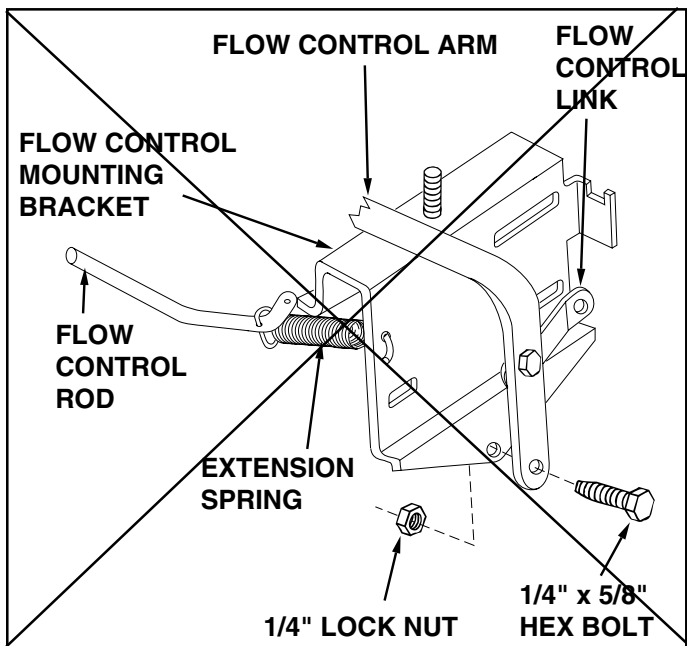

FIGURE 10
15. Assemble the flow control arm to the flow control mounting bracket using one 1/4" x 5/8" hex bolt and one 1/4" hex lock nut. See figure 10. **DO NOT OVER TIGHTEN FLOW CONTROL ARM MUST PIVOT FREELY.**
16. Hook one end of extension spring through small hole near bend in flow control rod and the other end through the hole in flow control mounting bracket. See figure 10.